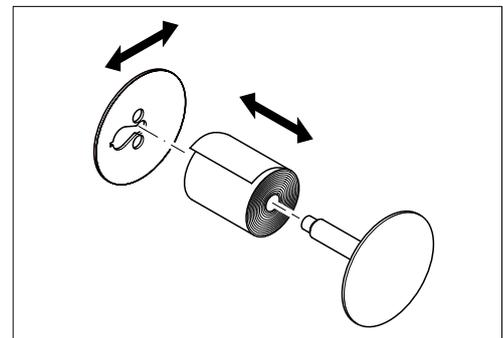

Fig. 3
2. Remove the narrow side of the reel, see Fig. 3.
3. Remove the journal from the reel, see Fig. 3.